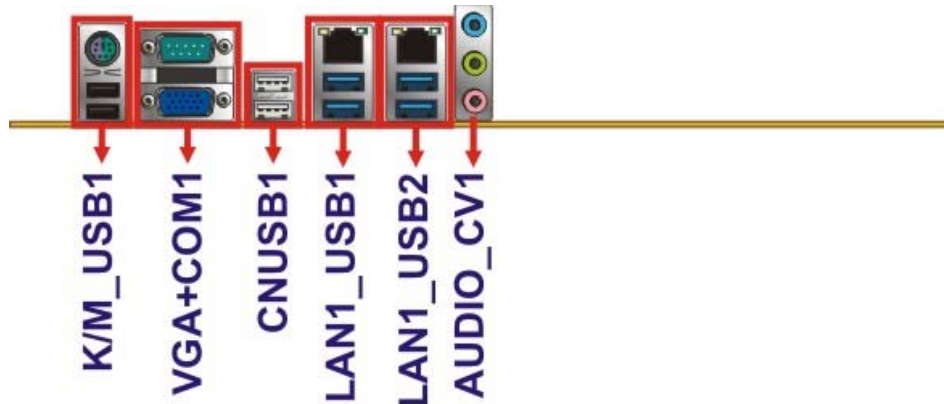

Figure 3-34: External Peripheral Interface Connector
CN Location:	See Figure 3-34
- CN Location:** See **Figure 3-34**
CN Location: See **Figure 3-34**